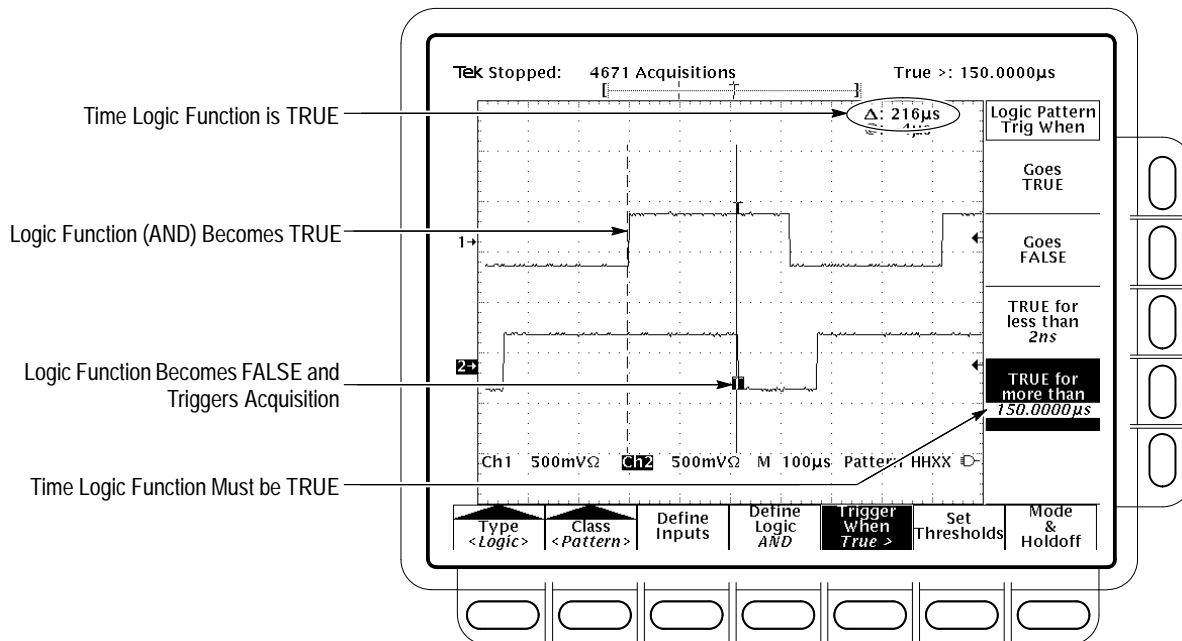

Figure 3–37: Logic Trigger Menu — Time Qualified TRUE
In Figure 3–37, the delay between the vertical bar cursors is the time the logic function is TRUE. Since this time is more (216  $\mu$ s) than that set in the TRUE for more than menu item (150  $\mu$ s), the oscilloscope issues the trigger at that point, not at the point at which it has been TRUE for 150  $\mu$ s.